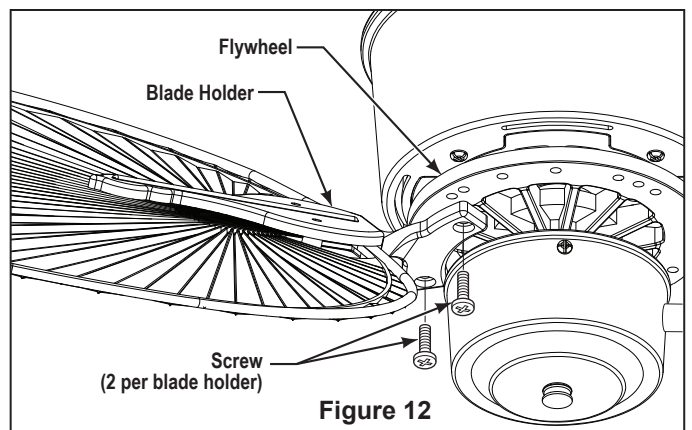

Figure 12
6. Tighten both screws to secure the blade. (Figure 12)
8. Make sure the screws securing the Blade Holders to the Flywheel are tight and that the Blade Holders are properly seated on the Flywheel. (Figure 12)